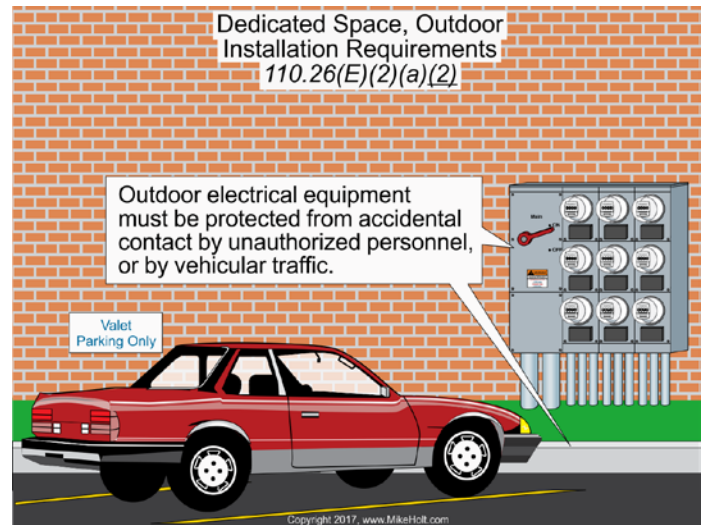

Figure 110-49
- \(2\) Protected from accidental contact by unauthorized personnel, or by vehicular traffic Figure 110-49